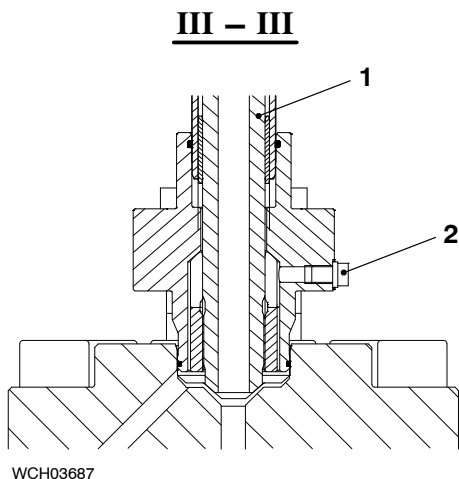

Fig. 4
- 12) Open the screw plug (2, Fig. 4). If there is no fuel, the HP fuel pipe (1) is fully drained.
- 13) Tighten the screw plug (2).